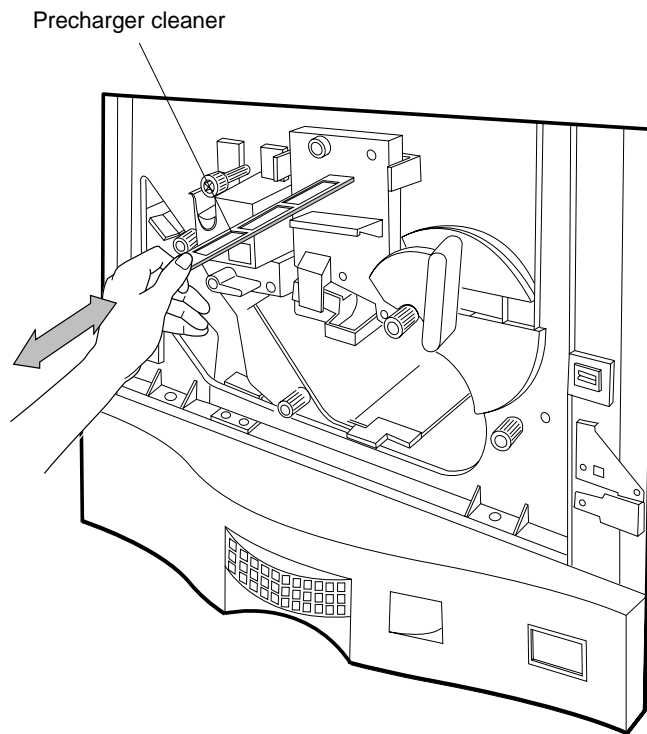

Figure 5-2 Cleaning the Precharger
1. Pull out the precharger cleaner handle (Figure 5-2), then push it back into its original location. Repeat this "out-in" process 4 or 5 times.